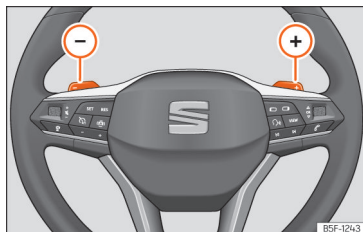

Fig. 87 Steering wheel: automatic gearbox levers
- Press the  gear shift paddle to change up a gear **>>> Fig. 87.**